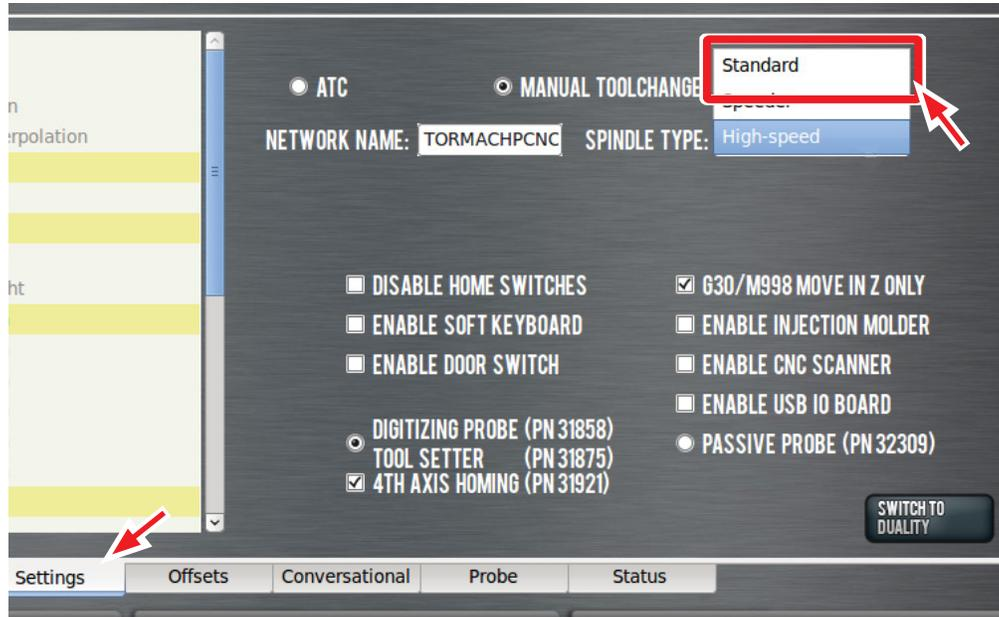

Figure 30
3. On the Settings screen select Standard spindle (see **Figure 30**).